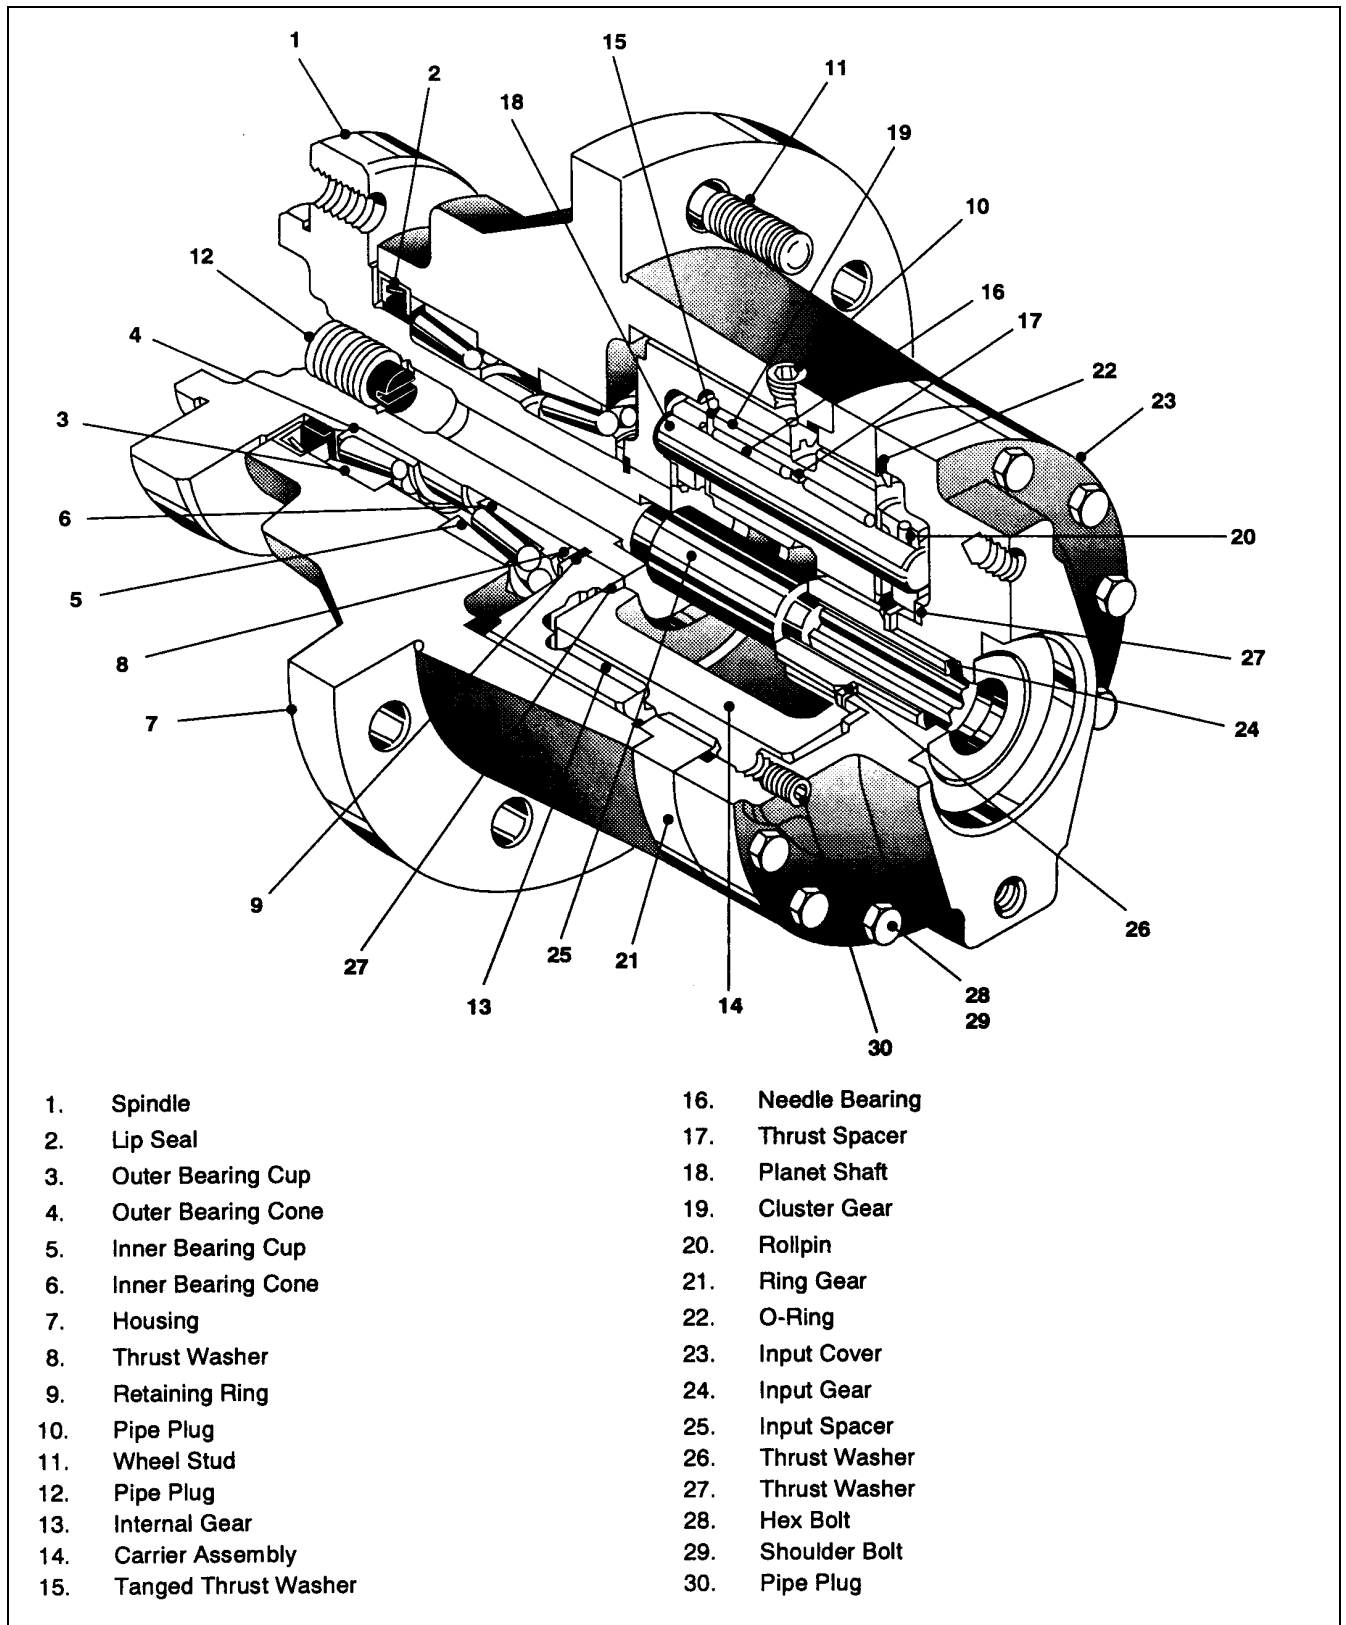

Figure 2-34. Drive Hub Assembly - 30/35/n35/40/n40/45.
2.17 DRIVE TORQUE HUB. (SEE FIGURE 2-34)